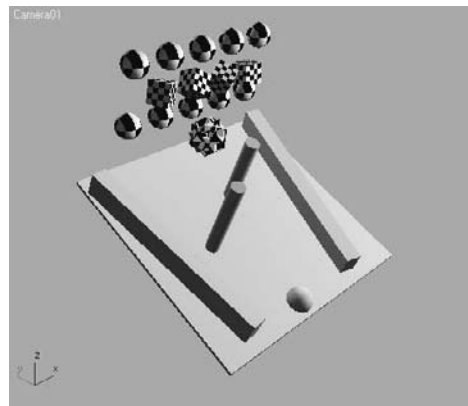

Figure 12.38
2. Create two rows of spheres above the inclined board. Make sure they are all over the top edge of the board and fit between the two angled rails on the sides, as shown in Figure 12.38.